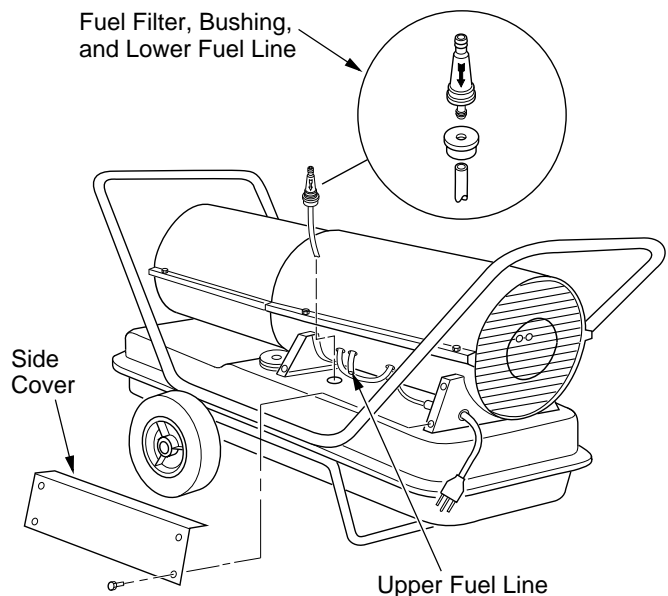

Figure 16 - Fuel Filter Removal, 110/115/150/155/165 Models
4. Carefully pry bushing, fuel filter, and lower fuel line (110/115/150/155/165 Models only) out of fuel tank (see Figure 16).
Note: See Figure 16, page 9 if your model does not come equipped with a fuel valve.